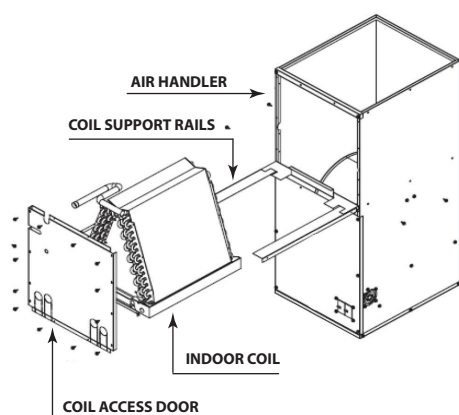

Figure 6. Indoor Coil Assembly
4. Remove 6 screws (3 on each side of air handler), securing indoor coil support rails. Refer to Figure 6.
6. Re-install the indoor coil support rails in the holes provided in the air handler casing as shown in Figure 6. Use the six (6) screws that were removed in step 4 to secure the indoor coil support rails to the air handler casing.
7. Re-install the cooling coil in the upright position as shown in Figure 6.
8. Remove the new indoor coil access panel from the conversion kit and install over the indoor coil section as shown in Figure 6. Re-install the blower and control box access panel in the upside-down position and secure with the screws that were removed in step 1.